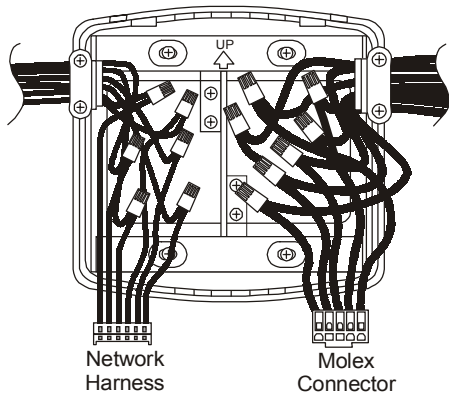

Figure 2: Backplate Wiring
The MRC is supplied with a Molex connector prewired with eight or ten 8 in. (203 mm) color-coded leads. These leads are connected in the wall junction box to the wiring from the FCU or other Heating, Ventilating, and Air Conditioning (HVAC) device with wire nuts (see Figure 2).
1. Use wire nuts to connect the wiring harness to the FCU wires within the electrical box (see Figure 2).